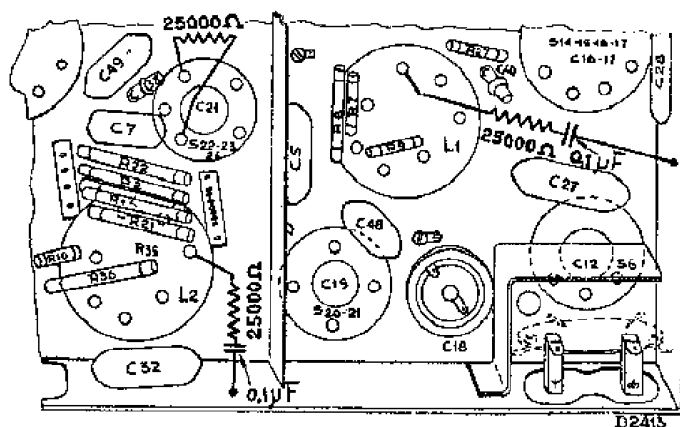

Fig. 4
8. Transfer damping resistance to between anode of L1 and chassis (fig. 4).
10. Remove damping resistance and connect across S23 + S24 (fig. 4).
12. Remove damping resistance and connect from anode of L2 to chassis (fig. 4).